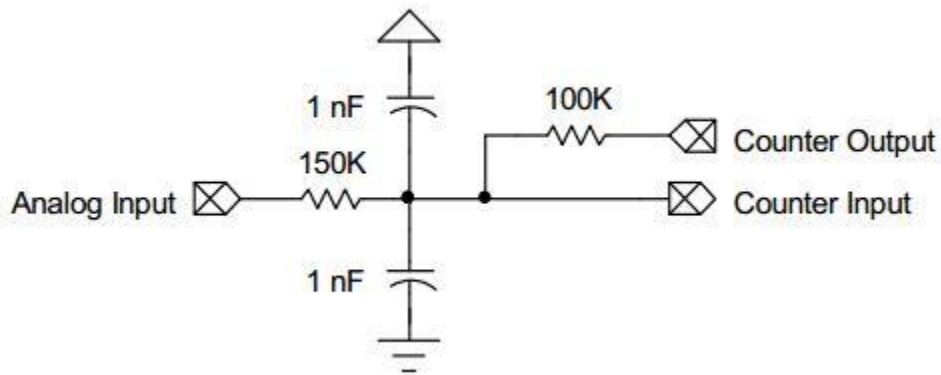
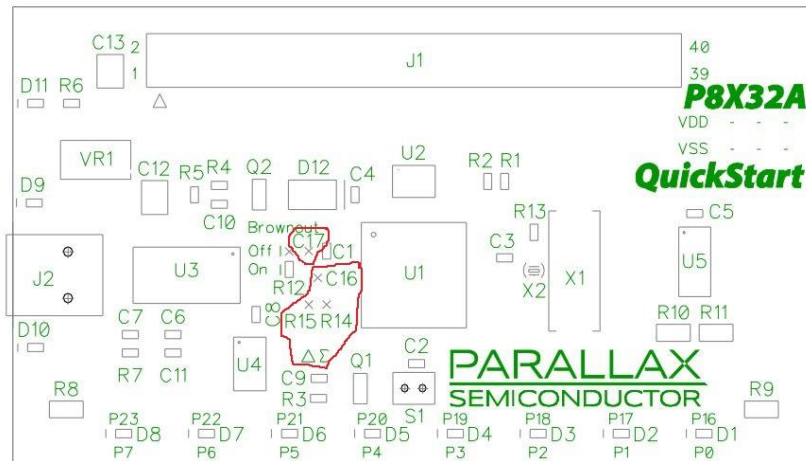

Fig. 2: Sigma-Delta ADC Circuit (Taken from Parallax Propeller Sigma-delta Analog to Digital Conversion.pdf)
Fig. 4: Component Locations (Taken from Parallax Propeller QuickStart Guide v1.0 \(RevA\).pdf)
*The sigma-delta ADC circuit in **Fig. 2** below displays the internal circuitry on the Propeller with recommended resistor and capacitor values to be soldered. According to Parallax, “the circuit includes a capacitor to Vdd, in addition to the one to ground. This is done to prevent noise on the power and/or ground rails from affecting the voltage at the summing junction asymmetrically, which could lead to sporadic conversion results.”
***Fig. 3 & Fig. 4** below specify the component names and the locations of the components on the Propeller, respectively, to be used in the sigma-delta ADC circuit of **Fig. 2**.